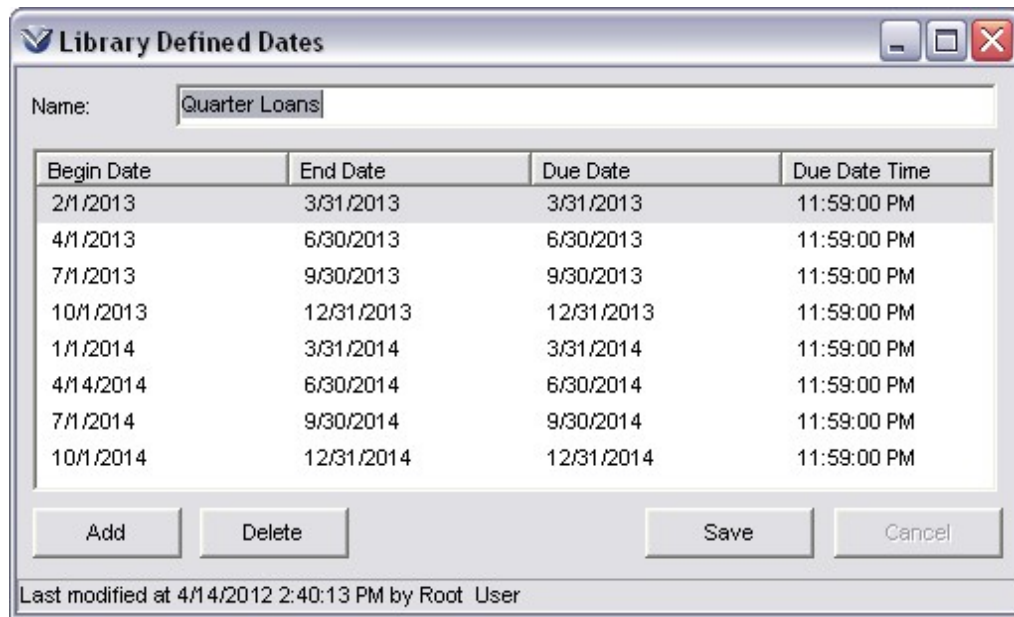

Figure 5-3. Library Defined Dates Window
The Library Defined Dates window appears (Figure 5-3).
1. On the Library Defined Dates window (Figure 5-3), highlight any cell in the row you want to delete.